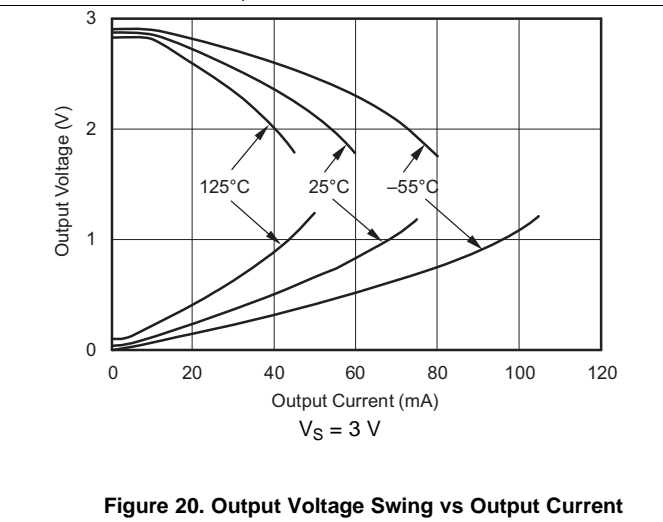
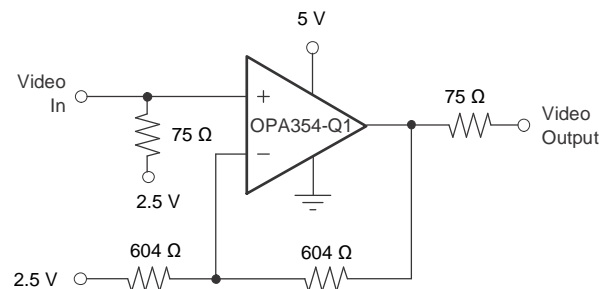

Figure 20. Output Voltage Swing vs Output Current
**Figure 31. Parallel Operation**
- (1) See typical characteristic graph *Output Voltage Swing vs Output Current* (Figure 20).
(2) Not production tested
The device uses a class-AB output stage with common-source transistors to achieve rail-to-rail output. For high-impedance loads ( $> 200\ \Omega$ ), the output voltage swing is typically 100 mV from the supply rails. With 10- $\Omega$  loads, a user can achieve a useful output swing while maintaining high open-loop gain; see Figure 20 \(Output Voltage Swing vs Output Current\).
For maximum reliability, TI does not recommend running a continuous DC current greater than  $\pm 100\text{ mA}$ ; see Figure 20 \(Output Voltage Swing vs Output Current\). Operate the OPAx354-Q1 family of devices in parallel to supply continuous output currents greater than  $\pm 100\text{ mA}$ , as shown in Figure 31.